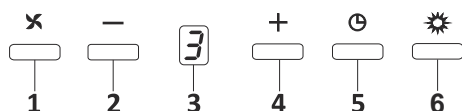

Fig. 17: 3 Spd Dig Button
1. ➤ Press this button to turn on the product. Fig. 17
2. ➤ Press this button to decrease the motor speed. Fig. 17
3. ➤ Dig display You can follow which speed the product is currently working on this display. Fig. 17
4. ➤ Press this button to increase the motor speed. Fig. 17
5. ➤ When timer button is pressed, a 15-minute timer function will be activated; display will give a signal once the timer starts and the motor will stop automatically after 15 minutes. Fig. 17
6. ➤ Press this button to turn on and off the lamp. Fig. 17